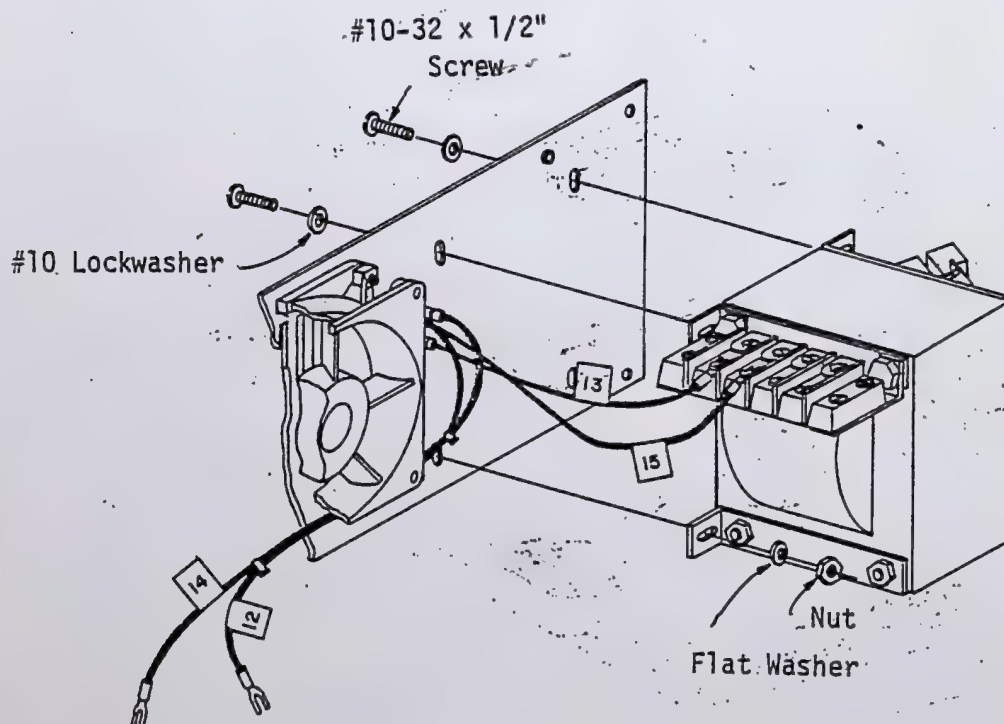

Figure 5-59. Transformer Mounting
- ✓ 1. Mount the transformer to the back panel as shown in Figure 5-59 using four #10-32 x 1/2 inch screws, 4 nuts, 4 flat washers and four #10 lockwashers. (The transformer positioning may have to be adjusted later when the back panel is mounted to the mainframe, to insure the transformer is resting on the cross member.)